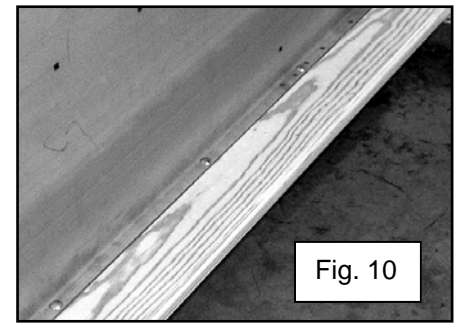

Fig. 10
11. Install the edge boards underneath the bed side lower lip as in step #8. Place 5/16"-18 x 1-1/2" carriage bolts through the bed side and the boards. See figure 10. Leave off the lock washers and nuts for now. Also leave each hole in the bed sides at the rear of the bed empty for now.